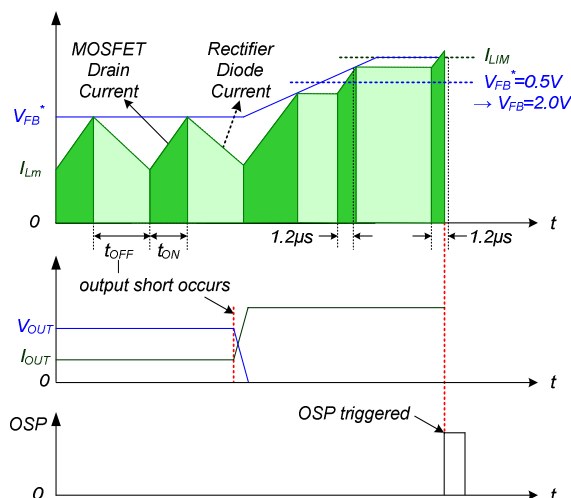

Figure 22. Output-Short Protection
4.3. Output-Short Protection (OSP): If the output is shorted, steep current with extremely high di/dt can flow through the SenseFET during the minimum turn-on time. Such a steep current brings high-voltage stress on the drain of the SenseFET when turned off. To protect the device from this abnormal condition, OSP is included. It is comprised of detecting V_{FB} and SenseFET turn-on time. When the V_{FB} is higher than 2V and the SenseFET turn-on time is lower than $1.2\mu s$, the FSGM0465RB recognizes this condition as an abnormal error and shuts down PWM switching until V_{CC} reaches V_{START} again. An abnormal condition output short is shown in Figure 22.